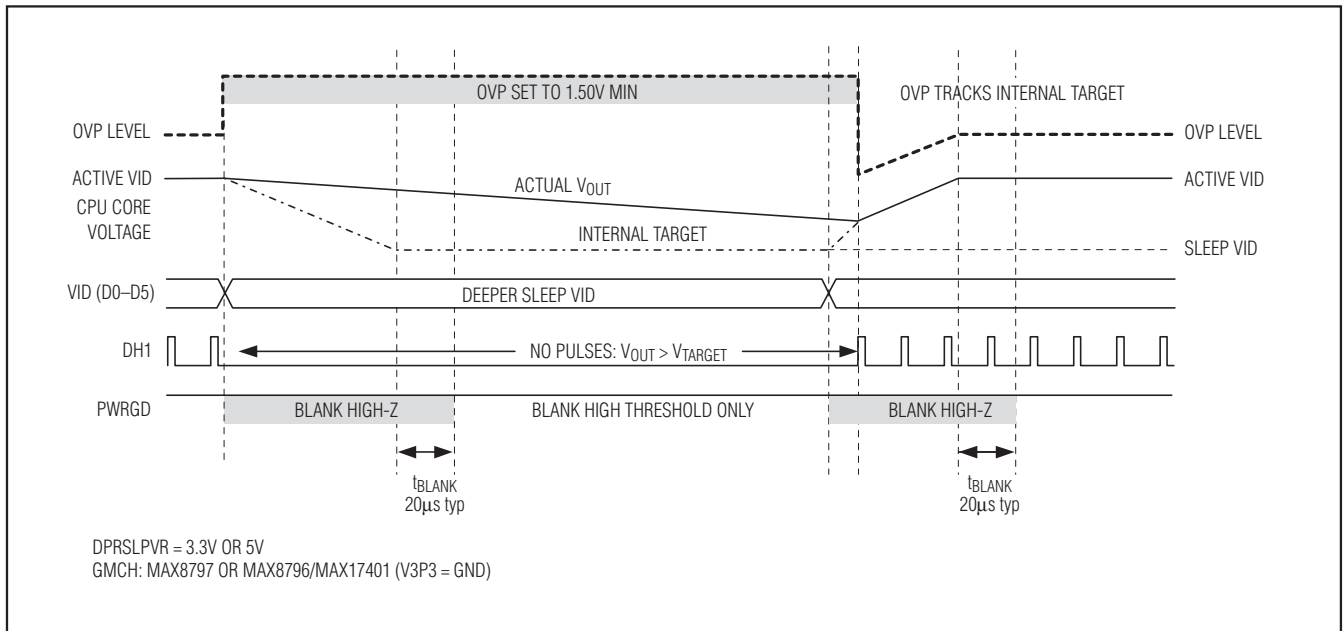

Figure 9. Early Exit GMCH Sleep Transition
- **Early GMCH sleep exit:** When exiting the sleep state while the output voltage still exceeds the internal target (the sleep voltage), the controller quickly slews (50mV/µs min regardless of R_{TIME} setting) the internal target voltage to the new VID DAC code as long as the output voltage exceeds the new target. Once the internal target reaches the output voltage, switching begins and the controller continues to ramp up the internal target and output voltage at the slew rate selected by R_{TIME} . The controller blanks PWRGD (forced high impedance) until 20µs after the transition is completed. See Figure 9.